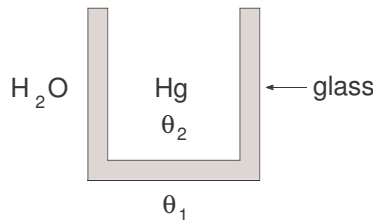

Figure 3.2 The thermometer in Problem 3.4.
- 3.4** Consider a mercury thermometer measuring the temperature of the surrounding water, see figure 3.2. The temperature of the water is θ_1 and the temperature of the mercury is θ_2 . Suppose that the heat capacity of the glass is negligible, i.e. that heat is transferred directly from the water to the mercury. We then get the following differential equation that describes the temperature of the mercury: